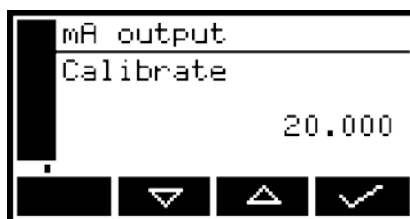

Figure 35 - The mA output calibrate screen
2. Select the required 'Calibrate' option, then press the  soft key. The mA output calibrate screen will then be displayed, as shown in Figure 35.